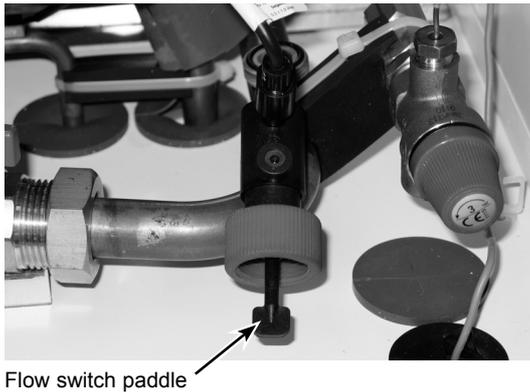

Figure 6-1
- The lead wire runs parallel to the water pipe. (Figure 6-1)